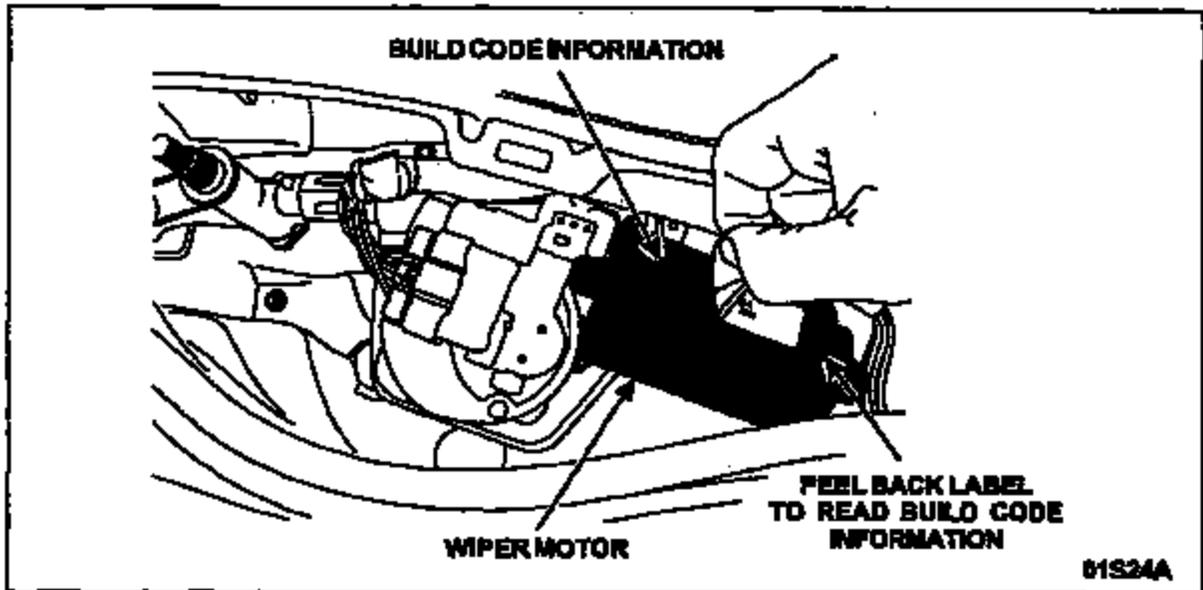

FIGURE 1
2. Locate the wiper motor build date. See Figures 1 and 2. The build date is etched into the outer case of the wiper motor. An adhesive label may be covering the information. This label does not contain the proper information and must be peeled back to read the build code information.